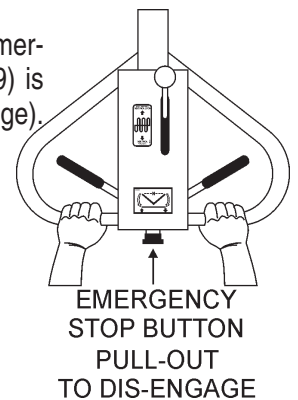

Figure 19. Emergency Stop Button
- ALWAYS** make sure that the emergency stop button (Figure 19) is pulled all the way out (disengage).